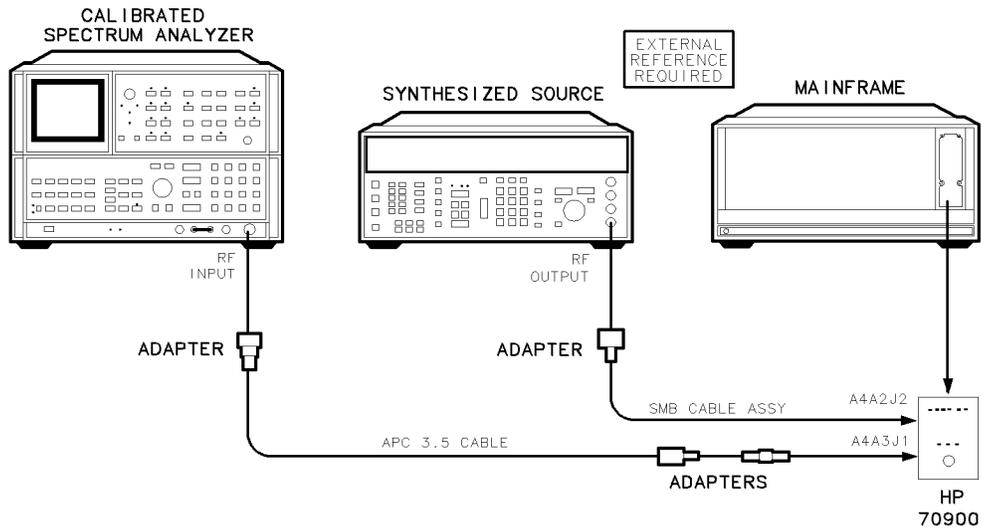

Figure 6-24. Equipment Setup for Adjustment 15. Low Idler
1. Connect the equipment as illustrated in Figure 6-24. Refer to Chapter 10 for the location of A4A2 idler lock (J2) and A4A3 idler VCO microcircuit (J1).